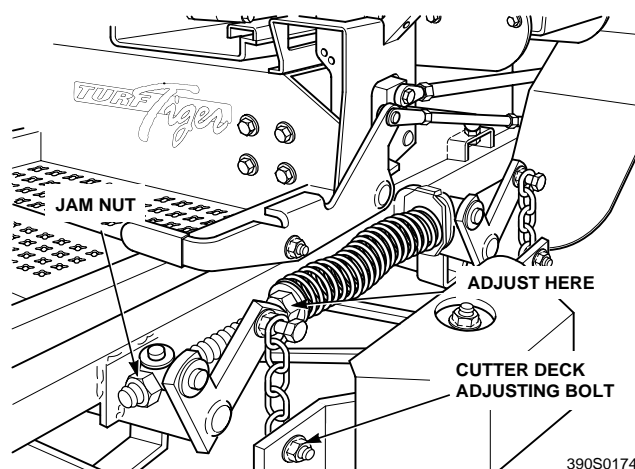

Figure 6-5. Cutter Deck Adjustment
1. On the front LH side of the cutter deck locate the cutter deck adjusting bolt. (See Figure 6.5)
1. Loosen the jam nuts on both adjusting rods. (See Figure 6.5)
2. Using a wrench on the spring compression nut (See Figure 6.5) turn the adjusting rods until the 1/4" forward pitch is obtained on both the RH and the LH side of the cutter deck. Tighten both jam nuts.